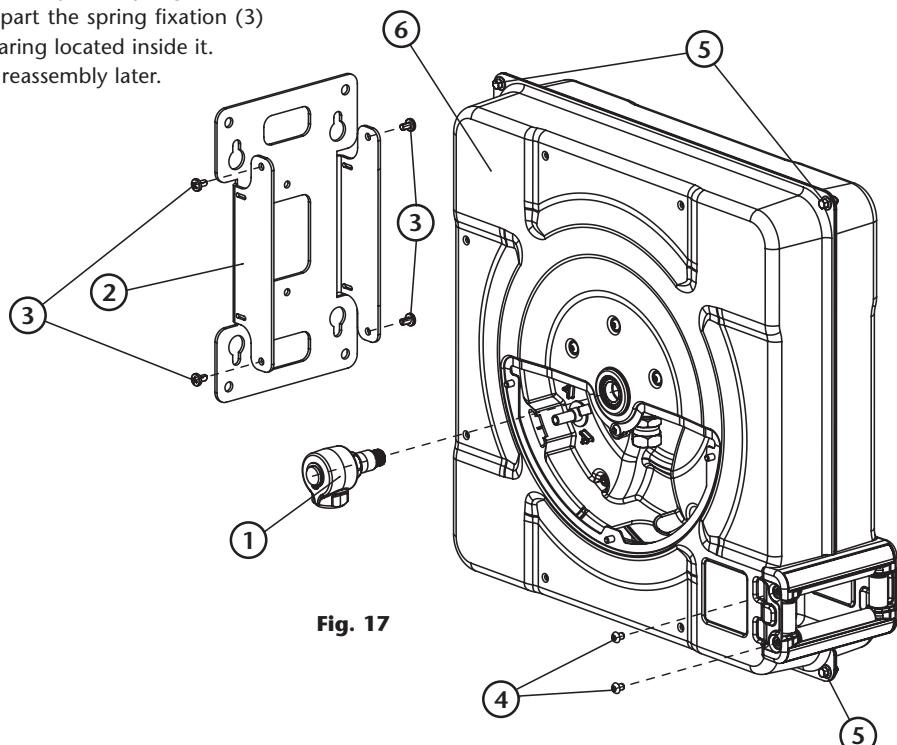

Fig. 17
7. Disassemble the set shaft-swivel (1) (fig. 17). It is not necessary to disassemble the swivel from the shaft. Use a flat-wrench over the shaft hexagon, and be sure to do counterforce by introducing an Allen key 7 mm between faces (1) (fig. 10) inside the brass hexagon (2) (fig. 10), through the Tensor piece (3) (fig. 10). Avoid to transmit stress to other hose reel components and don't apply lever with the flat-wrench over the swivel. Keep it to be able to install again later on the new spool.
8. Take apart the base (2) (fig. 17) loosening the bolts (3) (fig. 17). Keep the base to be able to install again later on the new spool.
9. Loosen the two bolts (4) (fig. 17) which hold one side of the roller outlet. Keep these bolts to be able to install again later.
17. Assemble the other casing side (the one with the service window), fitting its central hole on the brass shaft. For a correct assembly position, the wings which hold the roller outlet, must be aligned. Join both casing sides by tightening the bolts (5) (fig. 17).
18. Tighten the two roller outlet bolts (4) (fig. 17).
19. Place the shaft-swivel assembly (1) (fig. 17). For doing this, introduce carefully the shaft through the casing bearing, be careful not to damage the inner sealing ring with the shaft thread. It is recommended to clean the threads and apply a medium strength threadlocker in this threaded coupling. For tighten the shaft, it is needed to do counterforce by introducing an Allen key 7 mm between faces (1) (fig. 8) inside the brass hexagon (2) (fig. 8), through the Tensor piece (3) (fig. 8). Avoid to transmit stress to other hose reel components.
20. Place the base (2) (fig. 17) in position on the casing, using the sheet metal screws (3) (fig. 17).